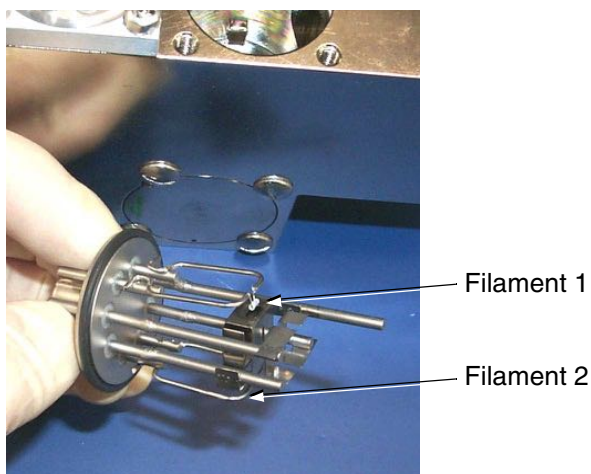
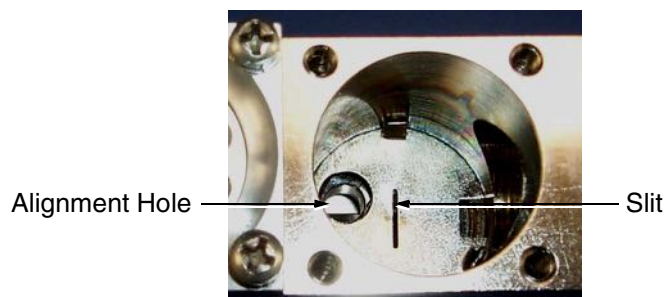

Figure 3-14 Ion Source
Figure 3-15 Ion Source Cavity
1. Examine the ion source (Figure 3-14) and cavity (Figure 3-15) for deposits and discoloration.
2. Look into the ion source cavity (Figure 3-15) and find the ground slit plate.